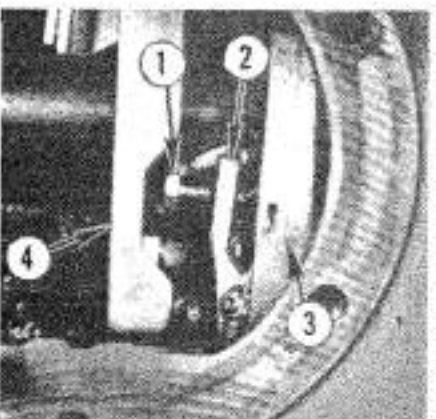
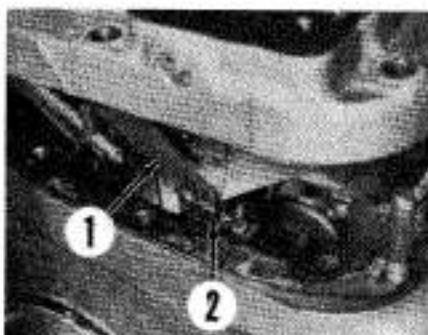

Fig. 206—The vertical lever (4) must be positioned as shown with cover reinstalled.
Fig. 207—On pressure control models, be sure pressure control lever (1) engages "butterfly" bracket when installing lift cover.
When reinstalling, be sure vertical control lever (4—Fig. 206) on cover is to rear of hydraulic pump control lever. Be sure "butterfly" bracket (2—Fig. 207), if so equipped, is installed on top of pump servo valve and that pressure control lever (1) engages the "butterfly" as shown. Use a welding rod or similar thin rod to guide standpipe into position as shown in Fig. 208.